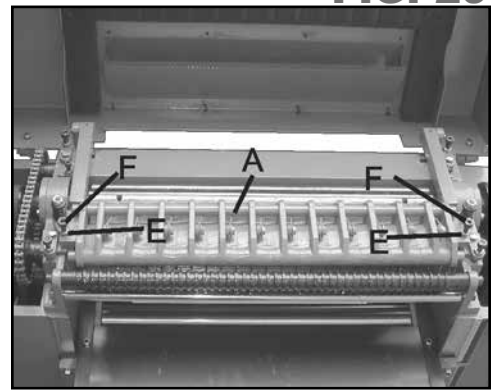

FIG. 29
The chipbreakers (A) Fig.29, are located on the top of the planer and extend downward around the front of the cutterhead. The chipbreakers will raise as stock is fed through the planer and «breaks or cuds» the wood chips. The bottom of the chipbreakers must be parallel to the knives and set .40» below the cutting circle. To check and adjust the chipbreakers, proceed as follows:
5. If an adjustment to the chipbreaker is necessary, loosen the two hex nuts (E) Fig.29, and turn the adjustment screws (F) until the chipbreaker slightly touches the gauge block at both sides of the table.